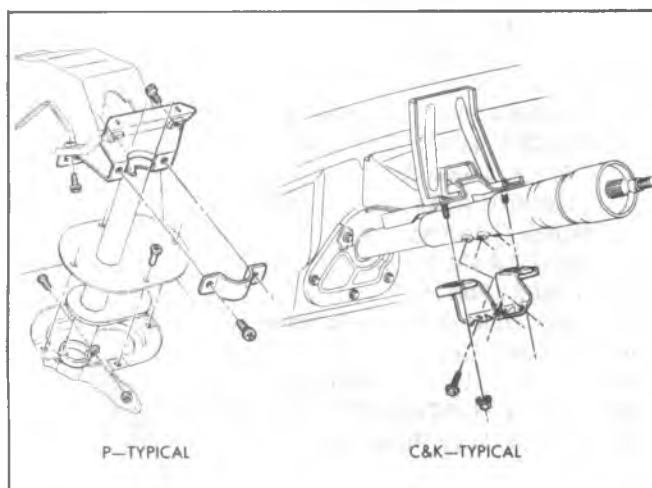

Fig. 3B4-34—Steering Column to Dash Panel-C, K Typical
7. Remove the transmission indicator cable, if so equipped (Fig. 3B4-33).
and seal to the floor pan and remove the covers (Fig. 3B4-34).
C and K Series, Standard Column - (Fig. 3B4-40)